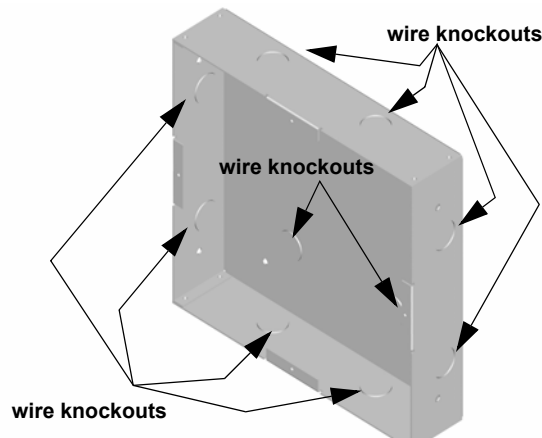

Figure 3 Backbox Knockout Locations
3. Remove the knockout holes as needed for wiring. To locate the backbox knockout locations, refer Figure 3.
1. Remove the desired knockout. See Figure 3.